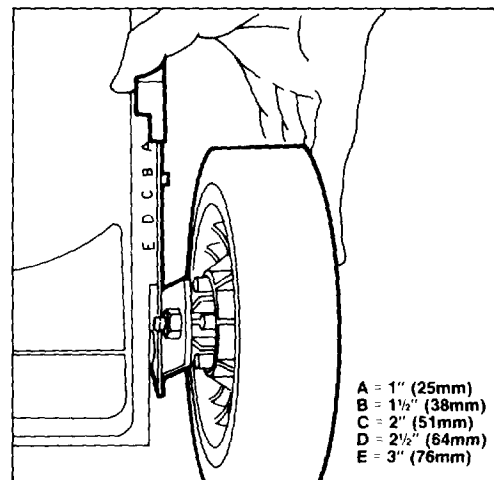

Figure 9
Five letters cast into the housing represent each graduated increment (Fig. 9).
2. For easier adjustment, lift housing up so wheel is off ground. Squeeze adjusting lever toward wheel and move them to desired setting (Fig. 9). Assure pin on adjusting lever engages notch in housing. Adjust all wheels to the same setting.